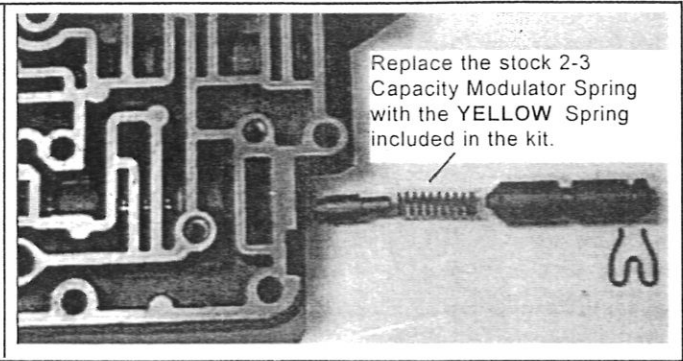

Figure 5. 2-3 Capacity Modulator Spring
**Step 6. 2-3 Capacity Modulator Spring (See Fig. 5):** Depress the orifice control valve train sleeve and remove retaining clip. Remove orifice